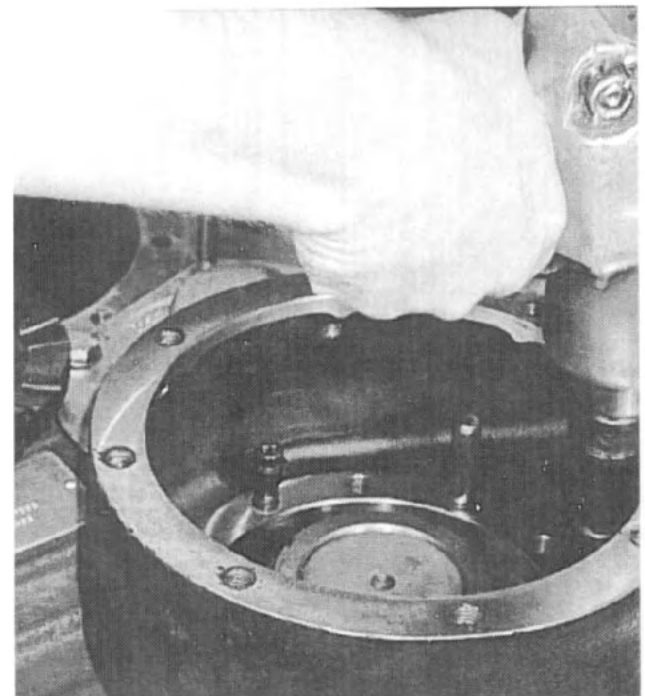

Fig. 74
16. Torque the declutch housing attachment bolts to specifications. See Fig. 74.